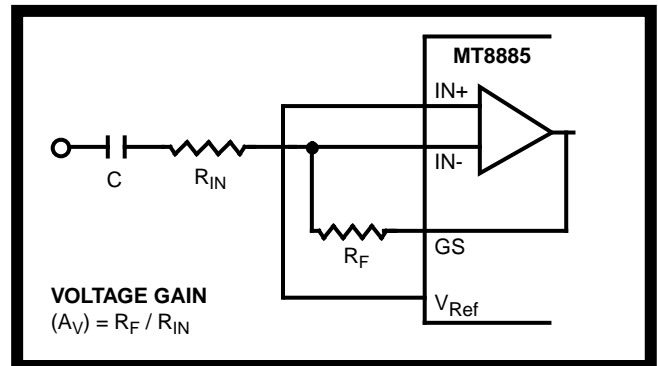

Figure 3 - Single-Ended Input Configuration
The input arrangement of the MT8885 provides a differential-input operational amplifier as well as a bias source (V_{Ref}), which is used to bias the inputs at V_{DD}/2. Provision is made for connection of a feedback resistor to the op-amp output (GS) for gain adjustment. In a single-ended configuration, the input pins are connected as shown in Figure 3.